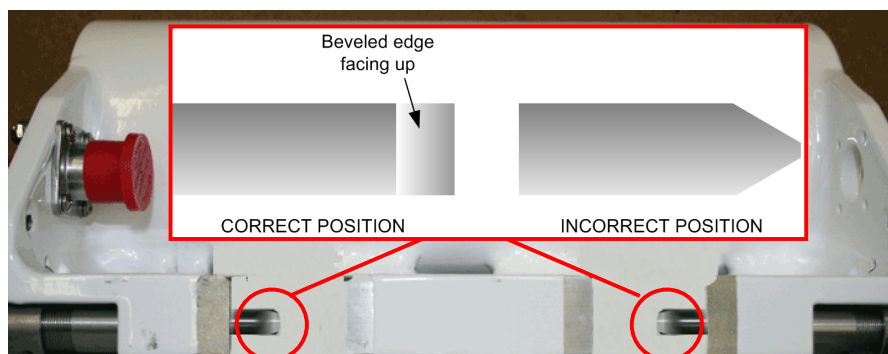

Figure 21. Position of detent pins
3. If not already positioned, rotate the detent pins (Figure 21) so their beveled ends face up. **THIS IS VERY IMPORTANT! FAILURE TO ALIGN THE PINS IN THIS WAY MAY DAMAGE THE PRODUCT!**